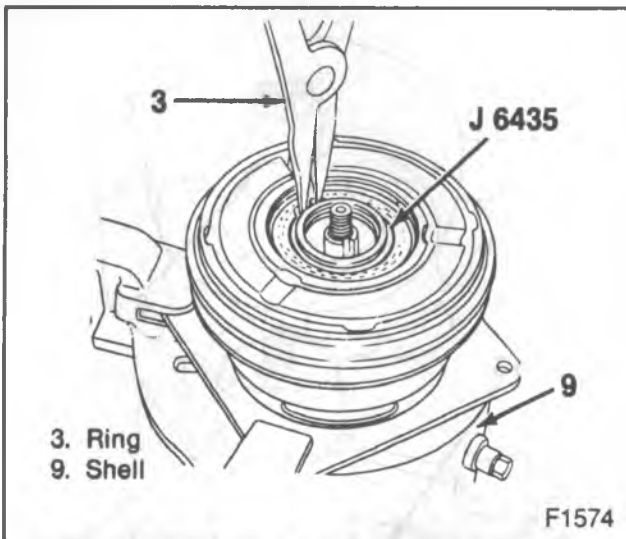
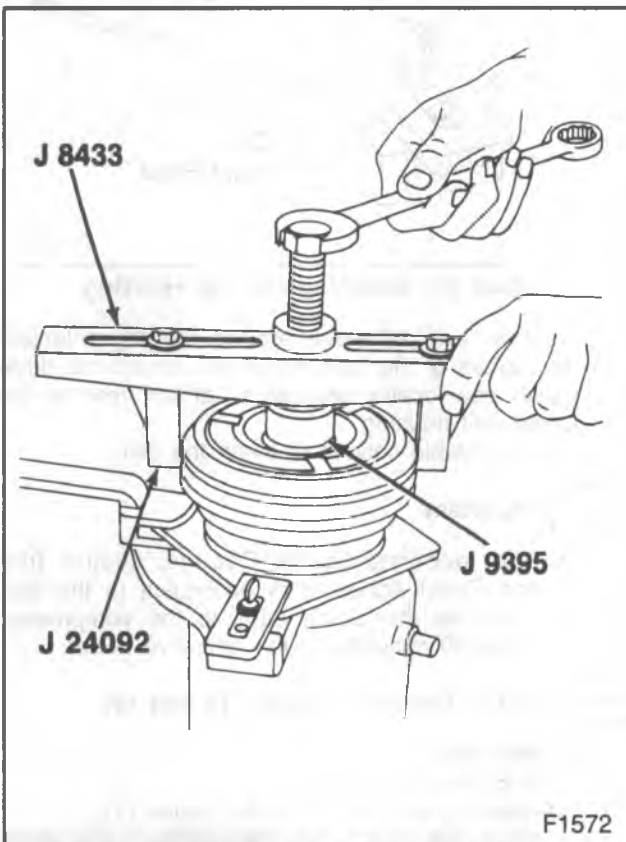

Figure 6—Removing the Pulley Retainer Ring
Figure 7—Removing the Pulley and Bearing
1. Clutch plate and hub assembly (2).
2. Pulley bearing retainer (2) with J 6435 (figure 6).
3. Pulley (6).
- Install J 9395 over the end of the compressor shaft (38) (figure 7).